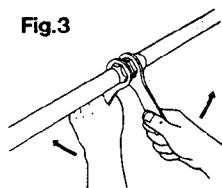

Fig.3
- 3) After connecting these elements, push the elements in the center FRP outershell and keep the other end out. Fasten the joint bracket thoroughly with special wrenches and connect the upper and center FRP outershells as shown in the Fig.3.